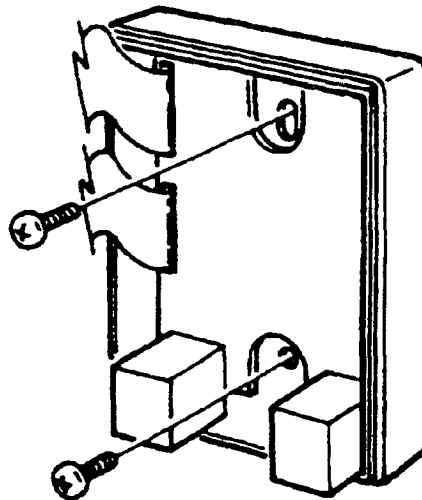

Figure 4-13 Attaching the SLT-F(1G)-( ) ADP to a Wall
2. Use the two provided wood screws to attach the unit to the wall. Close the unit and secure with the two screws previously removed. Refer to Figure 4-13 - Attaching the SLT-F(1G)-( ) ADP to a Wall.